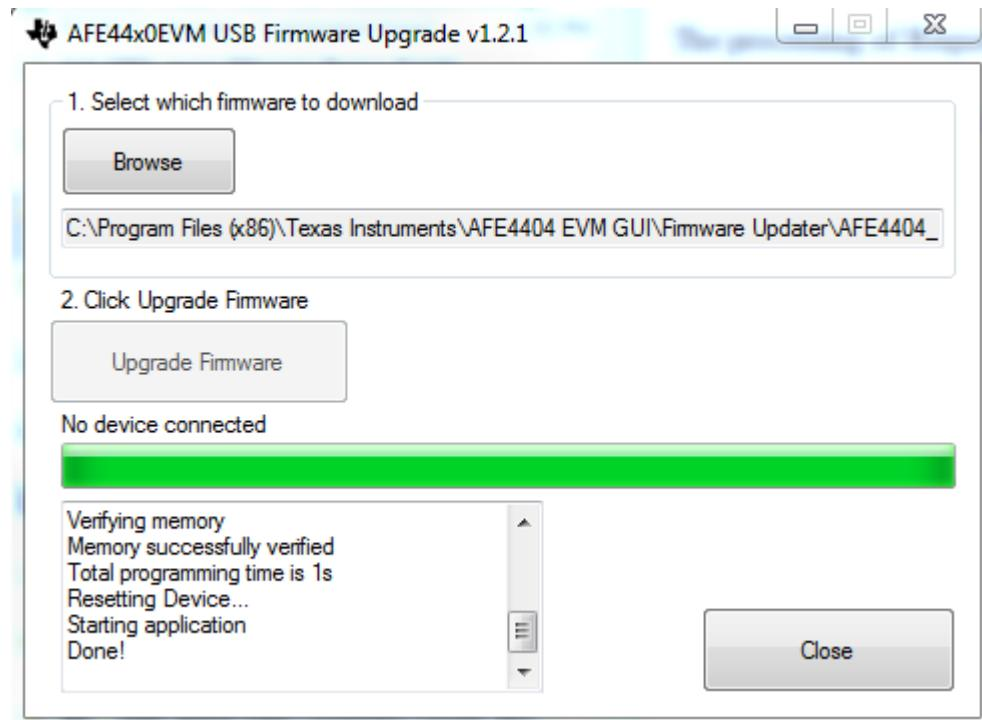

Figure 45. Firmware Loader Application: Programming Status
5. The text box will display the status of the firmware programming. If programming is successful, *Done!* message is displayed in the text box. Figure 45 shows the status of the successful programming